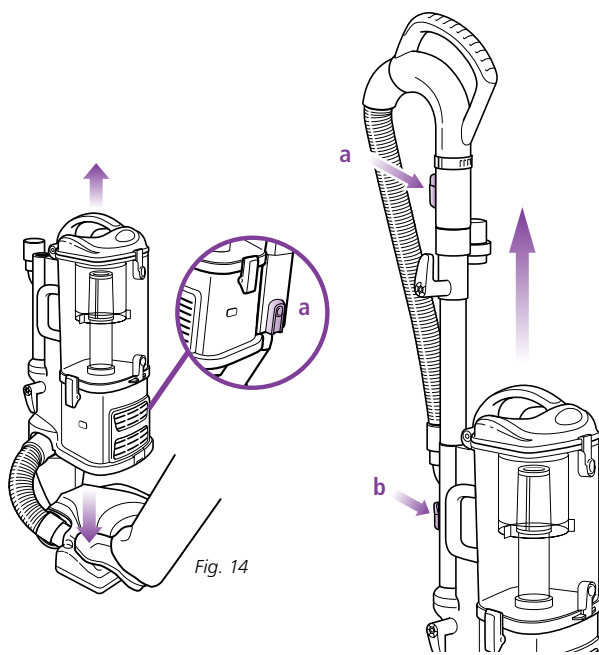

Fig. 15
- 2 Press the handle release button (a) and pull the handle up or press the extension wand release button (b) and pull the extension wand up. (Fig. 15)
- 1 Press the extension wand release button and pull the extension wand up. (Refer to page 10, Fig. 15-b)
- 1 Press the release button and pull the handle up. (Refer to page 10, Fig. 15-a)